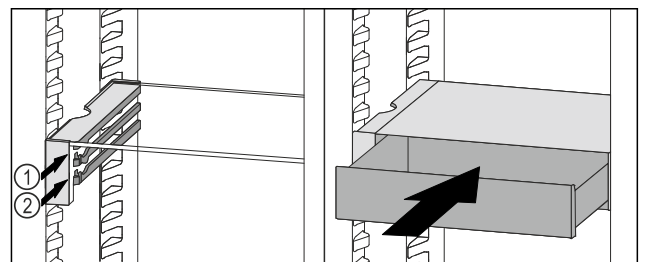

Fig. 105
- ▶ Place the VarioSafe drawer behind the stoppers on desired rib *Fig. 105 (1)* or *Fig. 105 (2)*.